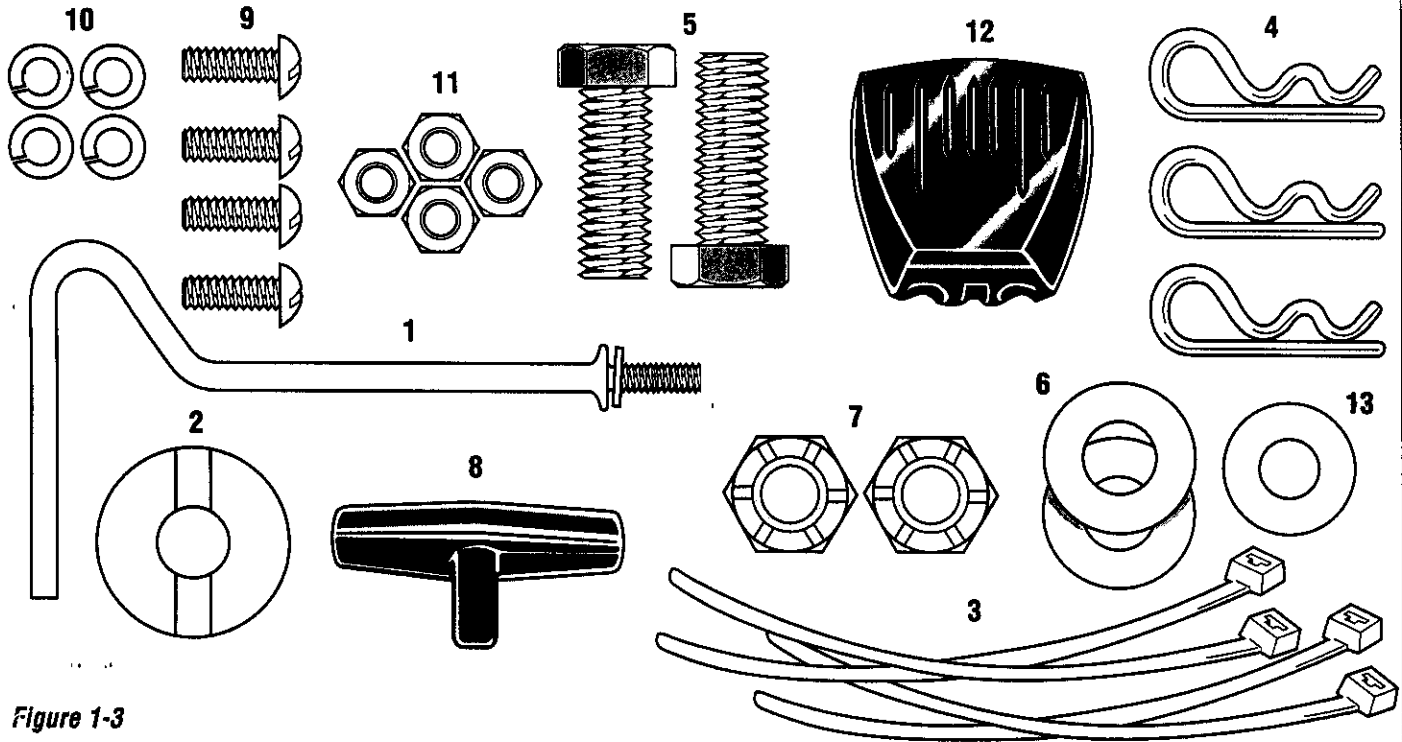

Figure 1-3
- The procedure for removing the tiller is explained in Step 1, item 6 of these assembly steps.
- A plastic bag inside the literature envelope contains loose hardware. Open the bag and check the contents against the hardware list on Page 7 and the hardware shown in Figure 1-3.